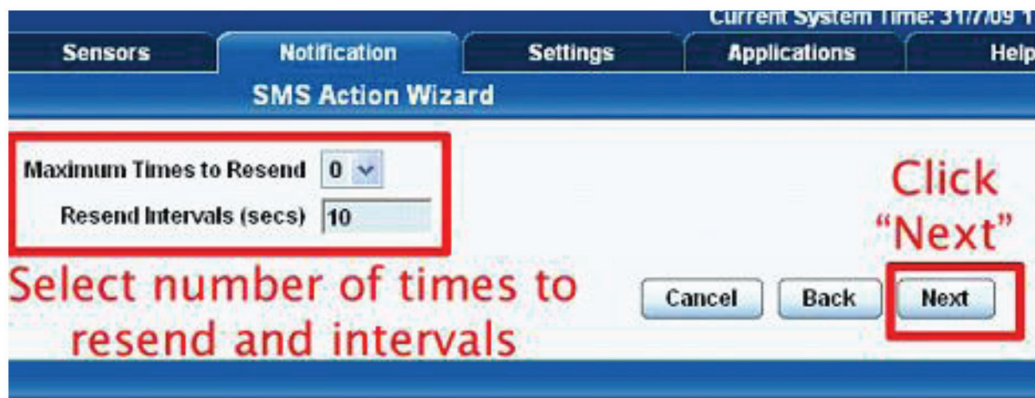

Figure 4-27. Select number of times to resend and intervals.
- You will now be able to select the number of times you want the SMS to be resent and the interval between sending them. (See Figure 4-27.)